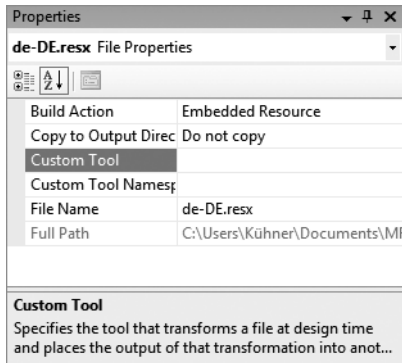

Figure 10-7. Deactivating the automatic generation of a typed resource class
4. For the new resource file, a typed resource class is created and automatically added under it as a subitem. This class is not needed and should be deleted. So that this class is not re-created after each change in the resources, you need to clear the value of the parameter Custom Tool, which has the value ResXFileCodeGenerator, in the Properties window (see Figure 10-7).